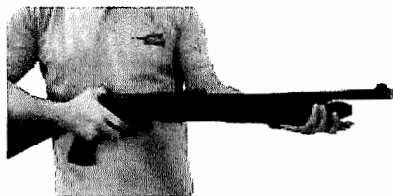

Fig. 36
14. Make sure the barrel and forend are seated tightly by turning the magazine cap clockwise. (Fig. 36)